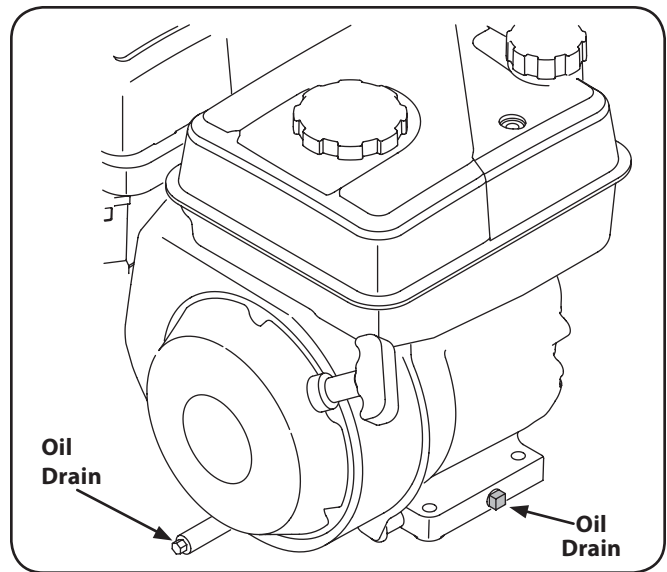

Fig. 6-3
6. Remove the Oil drain plug. See Fig. 6-3.
NOTE: Depending on which engine model you have, the oil plug may be positioned differently. These positions include on the front and/or rear side of the block, or as an extended tube. Examples are shown in Fig. 6-3.